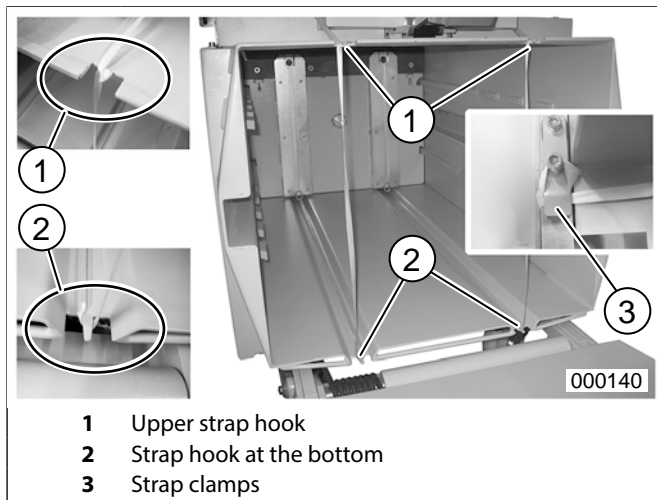

fig. 21 Inserting straps for a new bale
5. Loosen the strap ends (fig. 21/3) which have been secured to the baler housing, knot them together with the respective straps pulled out in the preceding step (fig. 17) and cut the strap behind the knot with a pair of scissors.
3. Pull the straps out a distance equivalent to about one flap length, guide the strap ends from the inside over the strap hook (fig. 21/1+2), through the inlet opening and up to the strap clamps (fig. 21/3). Secure the strap ends here by wrapping them twice around the clamps.